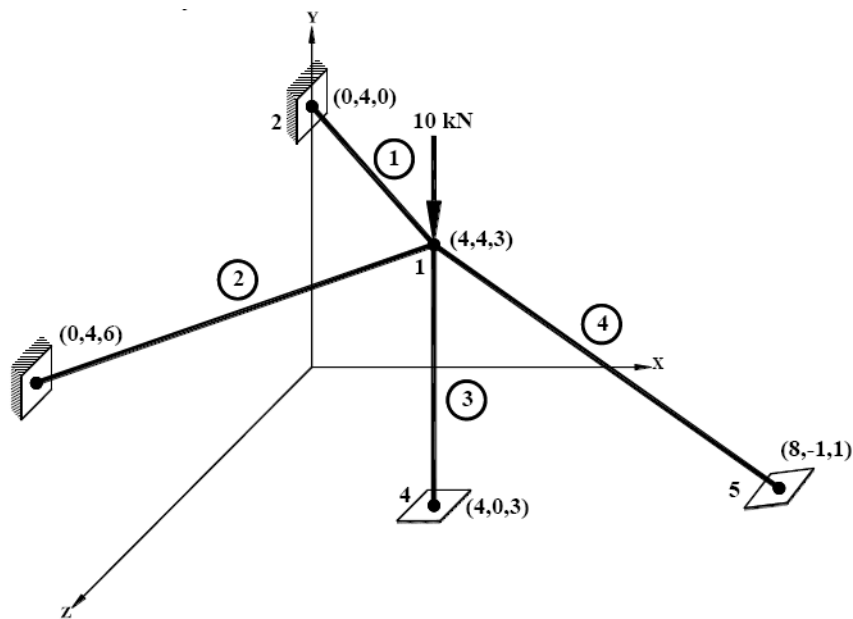

Figure P2.16
16. For the space truss shown in **Figure P2.16**, determine the nodal displacements and the stresses in each element. Let $E = 210 \text{ GPa}$, $A = 10 \times 10^{-4} \text{ m}^2$ for all elements. All supports are ball and socket joints.